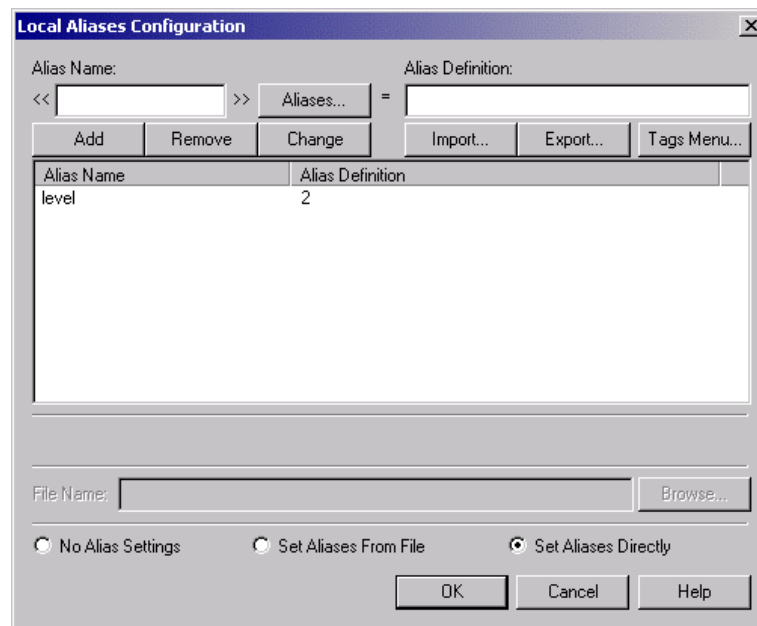

Figure 5.39
16. Now select the **Set Aliases** button then **Local Aliases**. For the **Alias name** enter **level** and set the **Alias Definition** to be **2**. Click add and verify that the setup is as shown in **Figure 5.39**. Click **Ok** to close the **Local Aliases Configuration**, and again to close the Menu Item **Property Inspector**.